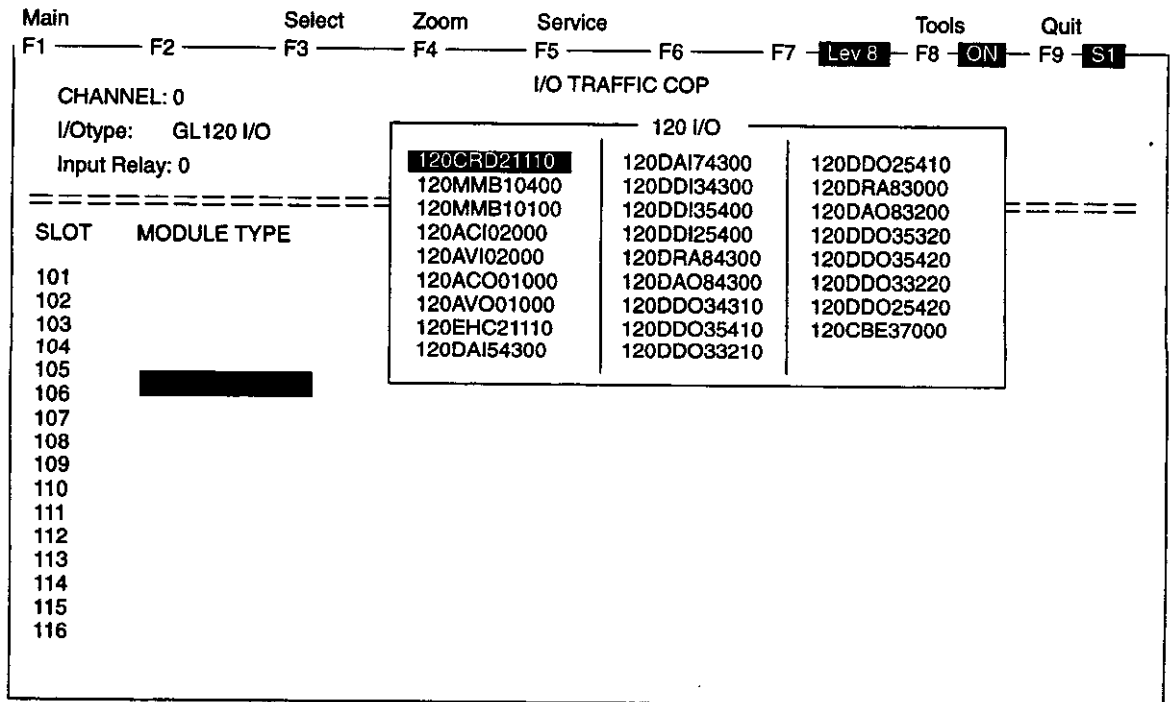

Figure 4.5 Module List
- e) Press the Shift + ? Keys. The module list window will open. Select 120CRD21110. (*Figure 4.5*)